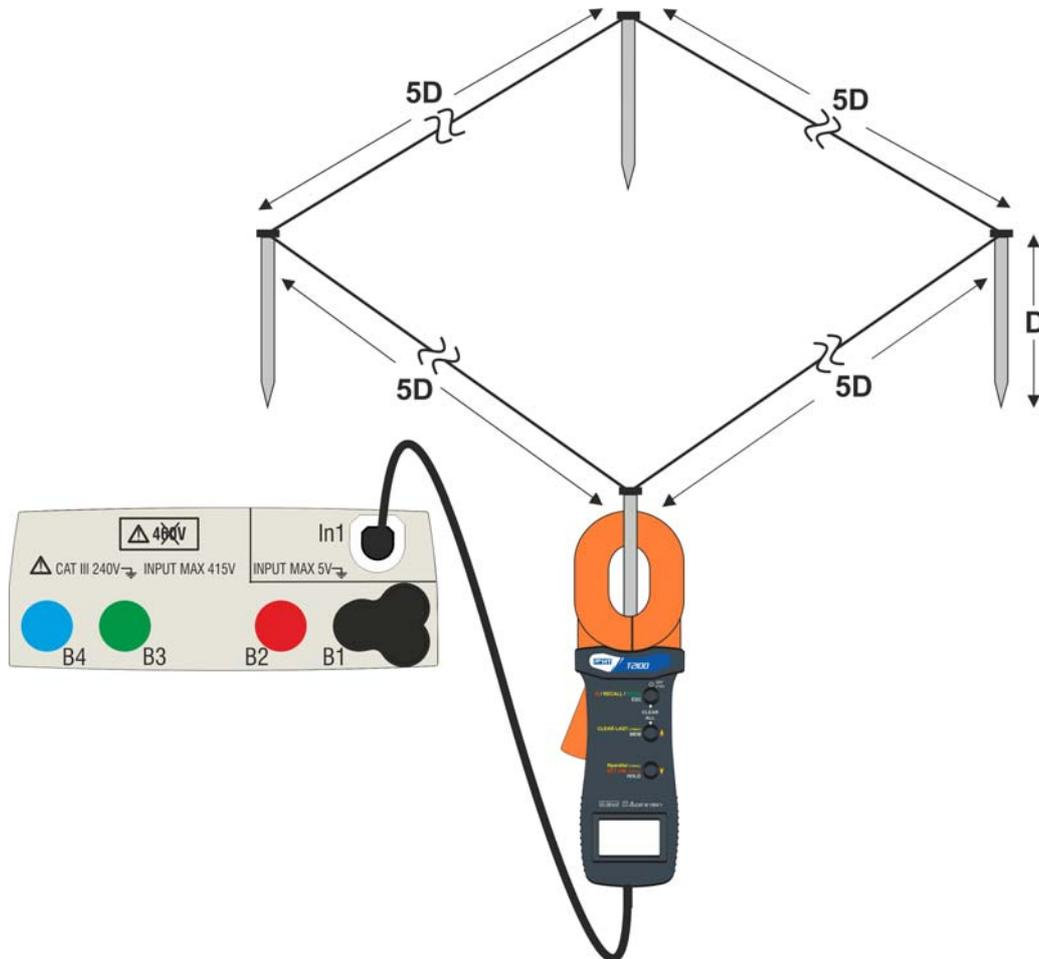

Fig. 30: Resistance measurement of single rods with clamp T2100
The measurement carried out by clamp T2100 can be used to evaluate single rods resistance values within an earth installation without disconnecting the rods, **assuming they do not affect each other** (see Fig. 30).
4. Connect the clamp to the first rod of the earth network considered as shown in Fig. 30. Note the value of the resistance in the  $R$  field and press the icon to insert this value in the calculation of parallel resistance and increase the  $N$  parameter by one unit ( $N=1$ )